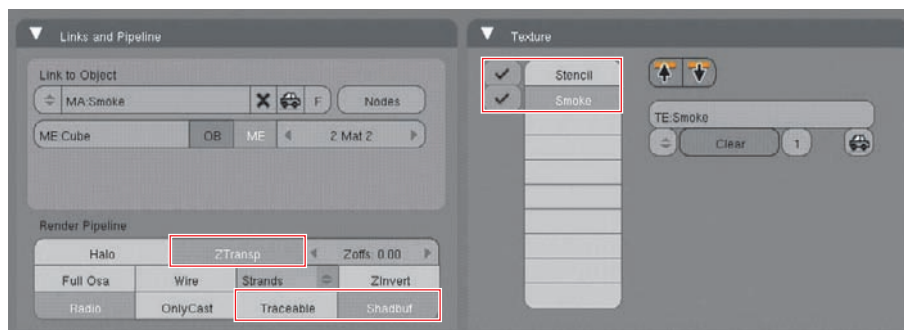
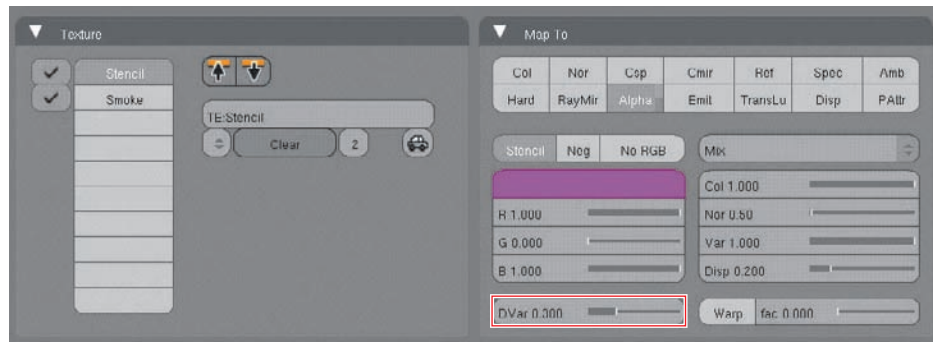

Figure 2.42 Smoke material index
Figure 2.43 Mapping for the Stencil texture
11. Add a new material index to the object in the Edit buttons. Set the Links and Pipeline values as shown in Figure 2.42. Like the Flame material, setting this material to be ray-traceable would be resource-intensive. Unlike flames, however, smoke does cast shadows, so buffer shadows are fine. In the Texture panel, put the Stencil texture that you created in step 8 in the top texture channel by selecting it from the drop-down menu on the Texture tab. Add a new texture beneath the Stencil texture and name it *Smoke*. You'll come back to this texture in a moment. The mapping for the Stencil texture should be done the same way as for the Flame material, except that instead of mapping to the Emit value, it should be mapped to the Alpha value. Also, set DVar to 0.3, as shown in Figure 2.43. This reduces the influence of the Texture value on the Map To value.